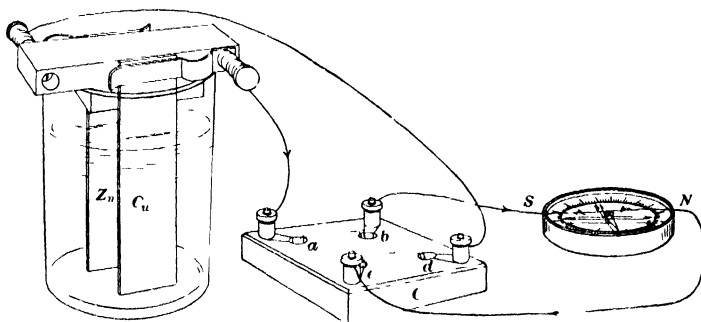
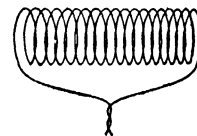

FIG 52
FIG 54
(a) Connect either a simple cell or a dry cell in the manner shown in Fig 52, so that the current will flow from the copper (or carbon) through the commutator *C*, then over the needle from south to north, and back through the commutator to the zinc. All of the connecting wires should be copper (for example, No 24), and that to the right of the commutator should be 10 or 12 ft long. Inset the top of the commutator and record the direction in which the north pole of the needle turns.
**I. Magnetic effect of a helix** (a) Having the circuit arranged as in Fig 52, the current being furnished either by a simple cell or by a dry cell, form a close helix (see Fig 54) by wrapping the conducting wire forty or fifty times around a lead pencil. Then with the aid of the compass see whether or not the helix is a magnet, that is, whether one end of it attracts the north pole while the other repels it.